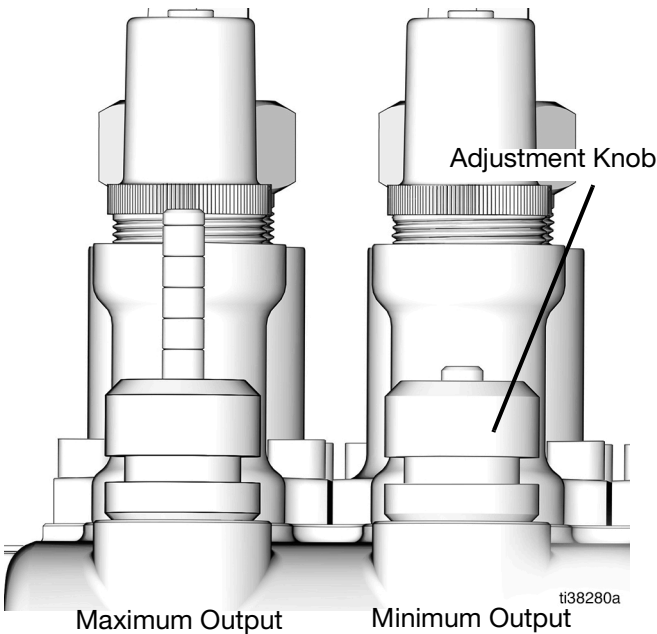

FIG. 7
- Achieve maximum pump rate by turning the adjustment knob on the rate indicator stem clockwise as far as it can go (FIG. 7).